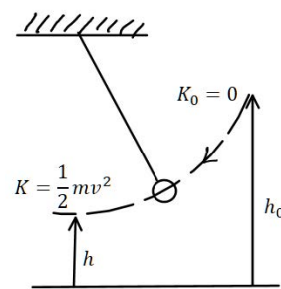

Figure 1: Pendulum with measurements identified.
Consider the pendulum system shown in Fig 1 where the points of interest are (1) the initial position of the pendulum starting from rest and (2) the pendulum at the bottom of its path. The total energy for states 1 and 2 are expressed as